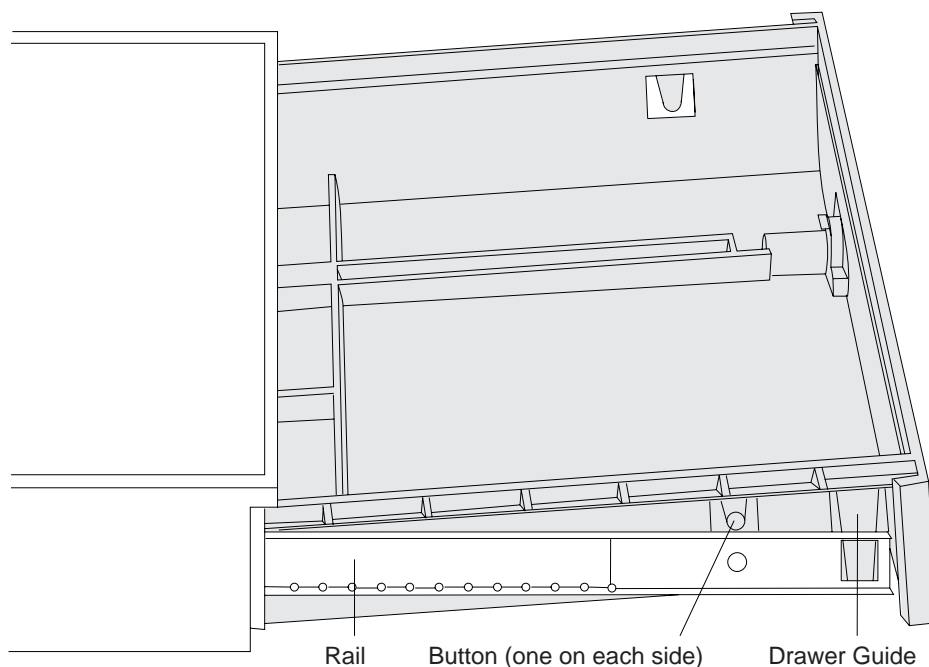

Figure 66. Removing and replacing a full size cash drawer
8. Push in on the buttons in the rails, as shown in Figure 66, and pull up on the front of the drawer until the drawer is free from the slides. Pull the drawer forward out of the base.
3. Position the rear of the drawer into the slides so that the drawer guide on each side of the drawer aligns with the corresponding opening on each side, as shown in Figure 66.